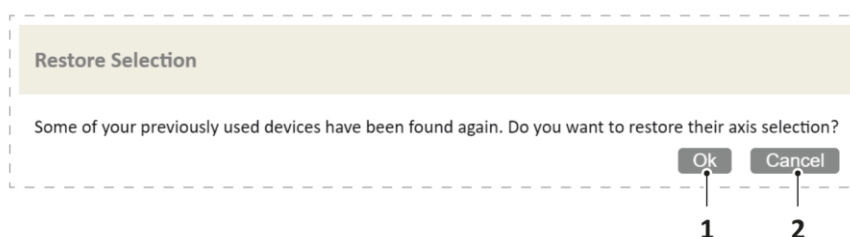

Figure 40 "Restore Selection" dialog
- To restore the last axis selection, click [Ok] (Figure 40/1).
- To discard the last axis selection, click [Cancel] (Figure 40/2).